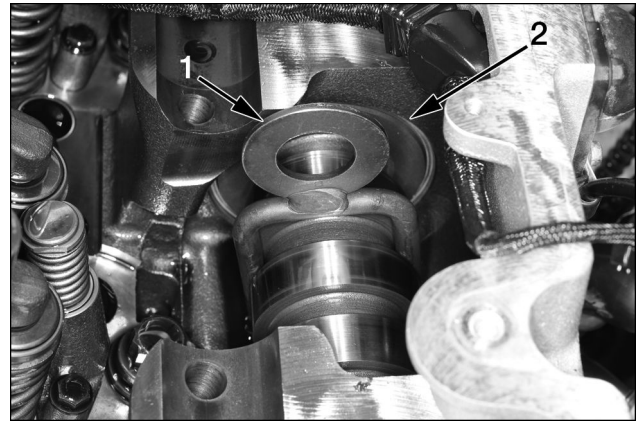

Figure 607 Camshaft Position Retainer
16. Remove Camshaft Position Retainer (Figure 607), and carefully remove camshaft from front of engine by slowly rotating the camshaft while pulling lightly.